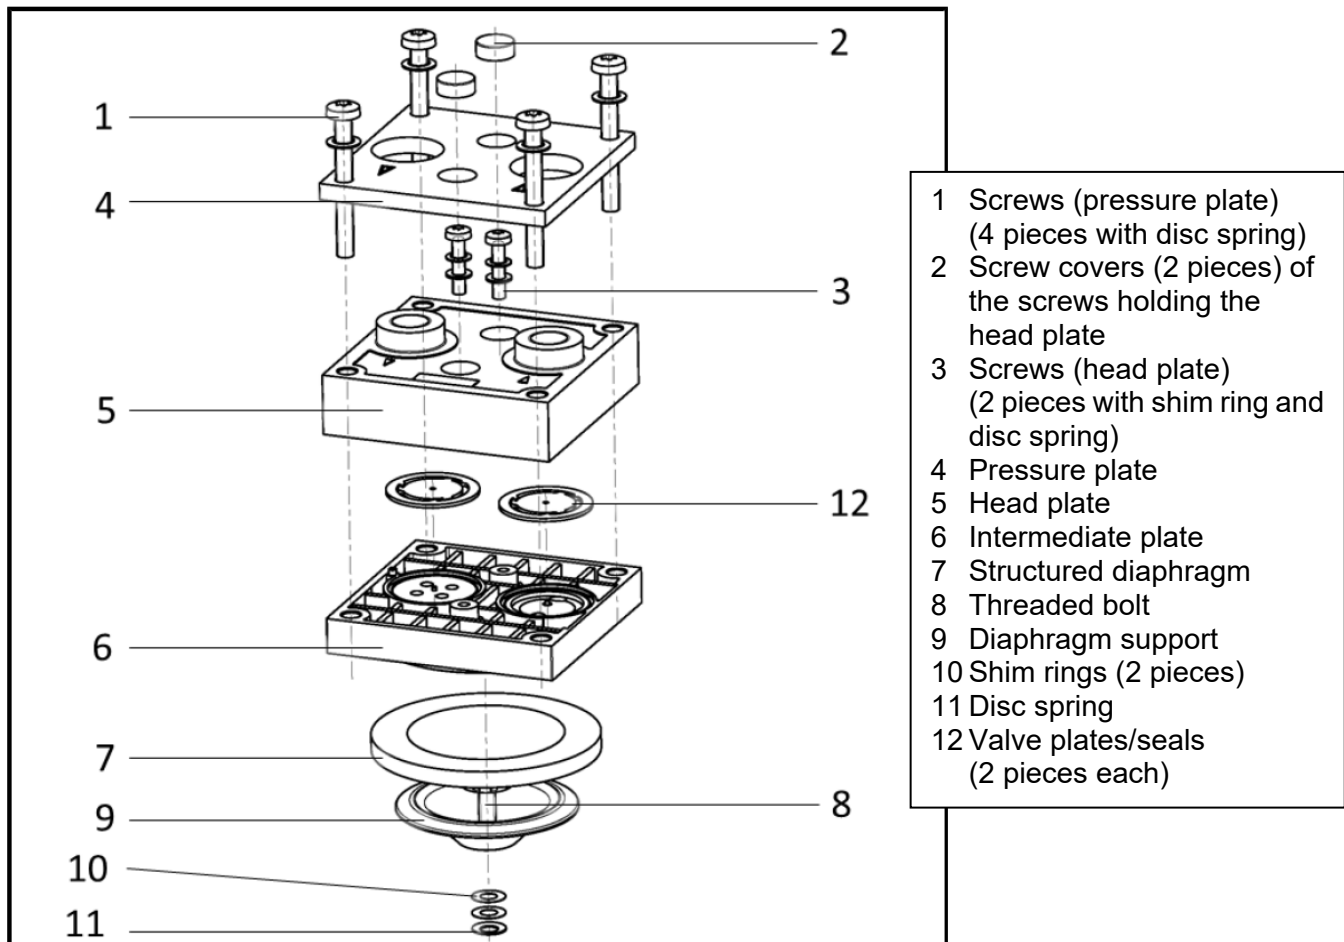
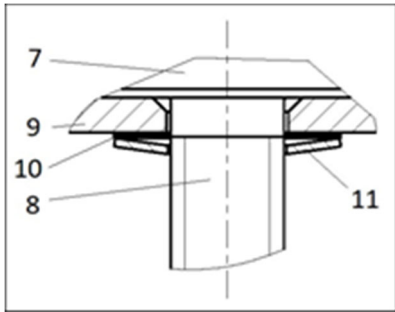

Figure 5 Sectional drawing of MP31 pump head
Figure 6 Aligning disc spring
Replacing the structured diaphragm (numbering see Figure 5 and Figure 6):
The edge of the disc of the disc spring **11** must be aligned with the structured diaphragm **7** (see Figure 6)
Replacing valve plates/seals (numbering see Figure 5) :
- 2 Place the pressure plate **4** on the head plate **5** according to the felt-tip pen marking (numbering see Figure 5).